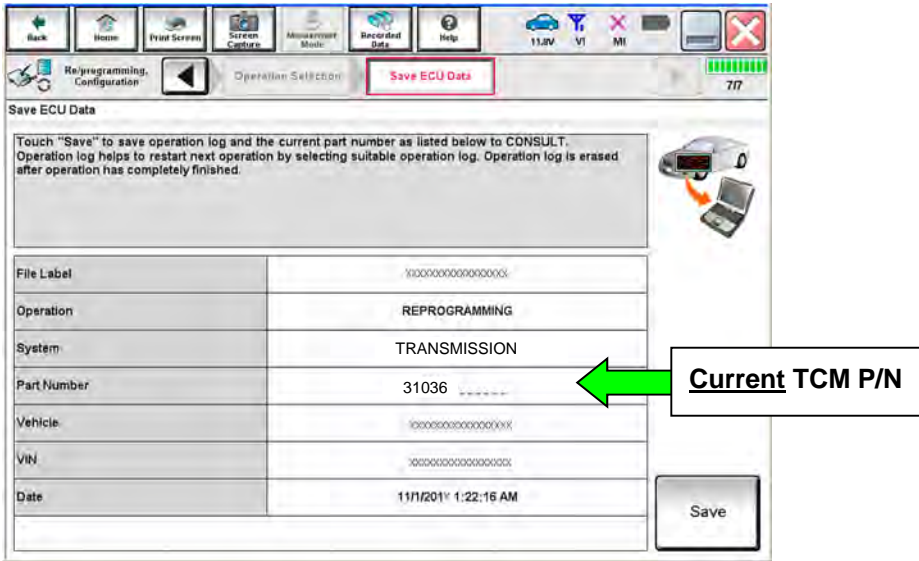

Figure 192
- 171. Follow the on-screen instructions and navigate the C-III plus to the screen shown in Figure 192.
- 172. When you get to the screen shown in Figure 192, confirm reprogramming applies as follows.